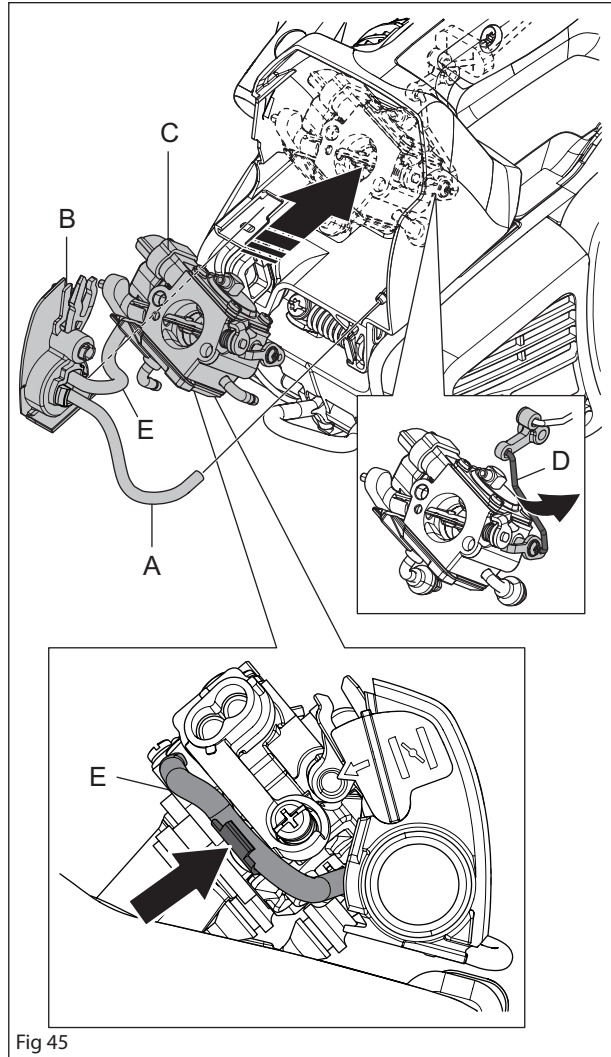

Fig 45
Hook the link rod (D) to the carburetor as outlined in Figure 45. Attach the two inlet manifolds to their corresponding grommet. Slide the purge (B) into place. Attach the suction hose (A) as outlined in Figure 45. Make sure to attach the fuel hose (E) to the carburetor guide correctly as outlined in Figure 45..